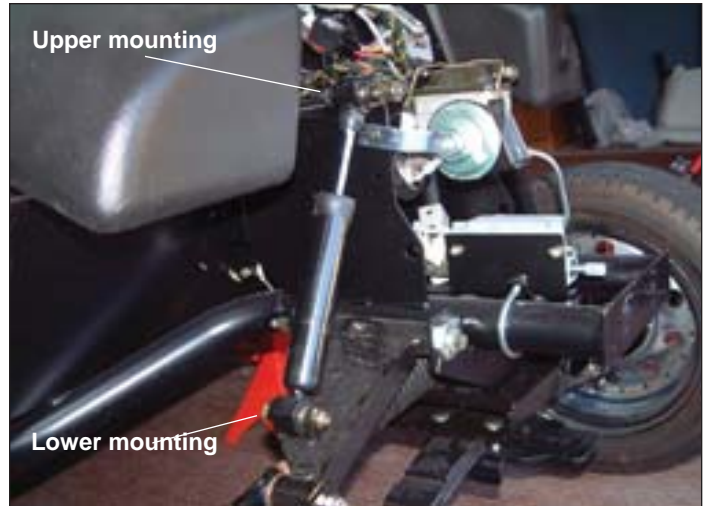

Figure 6-2. Front Shock Mounting
2. Remove upper and lower nuts and bolts securing shock absorber to upper frame (Figure 6-2).